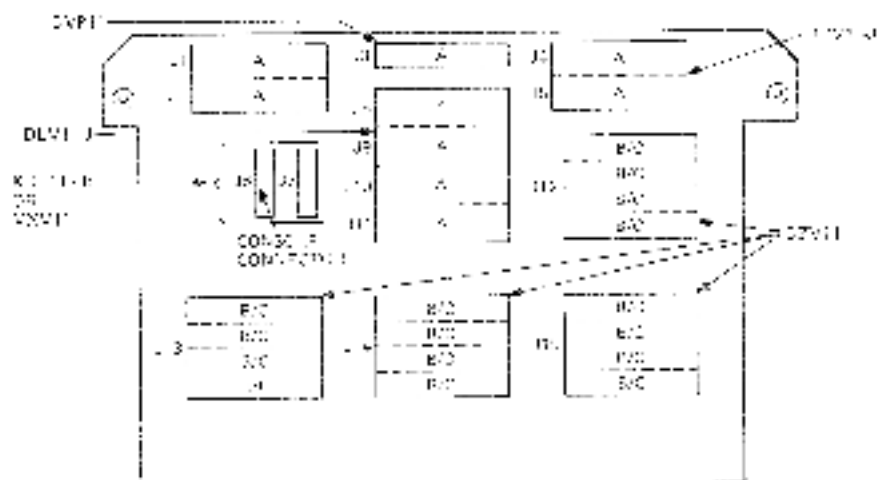

Figure B-9 R349 I/O Distribution Panel
**3.7.6.1 Insert Panels and Filter Connectors** – The R349 I/O distribution panel has 10 cutouts that provide a place to install up to 15 insert panels (Figure B-9). Mounting locations J6 and J7 accommodate the two KDF11-BA or KDF12-BA serial line connectors (see assembly).